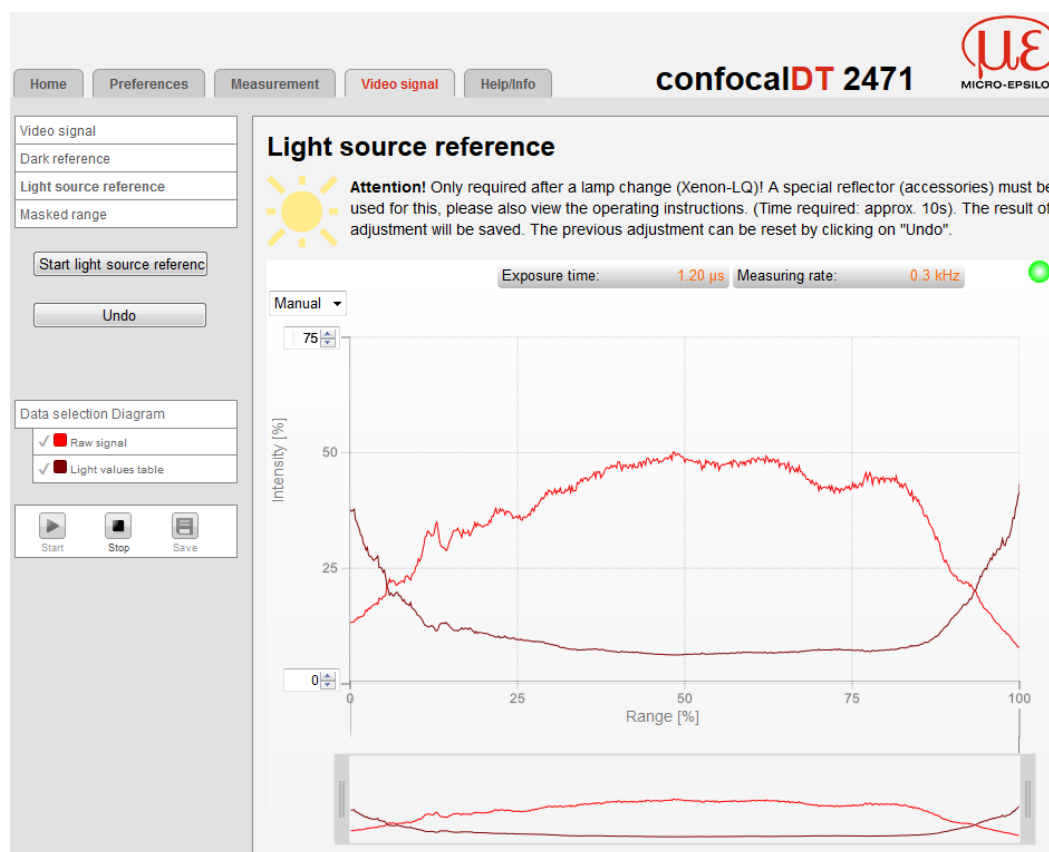

Fig. 58 Light reference video signal, example: IFC2471 with xenon light source
- Observe the video signal, see Fig. 58.